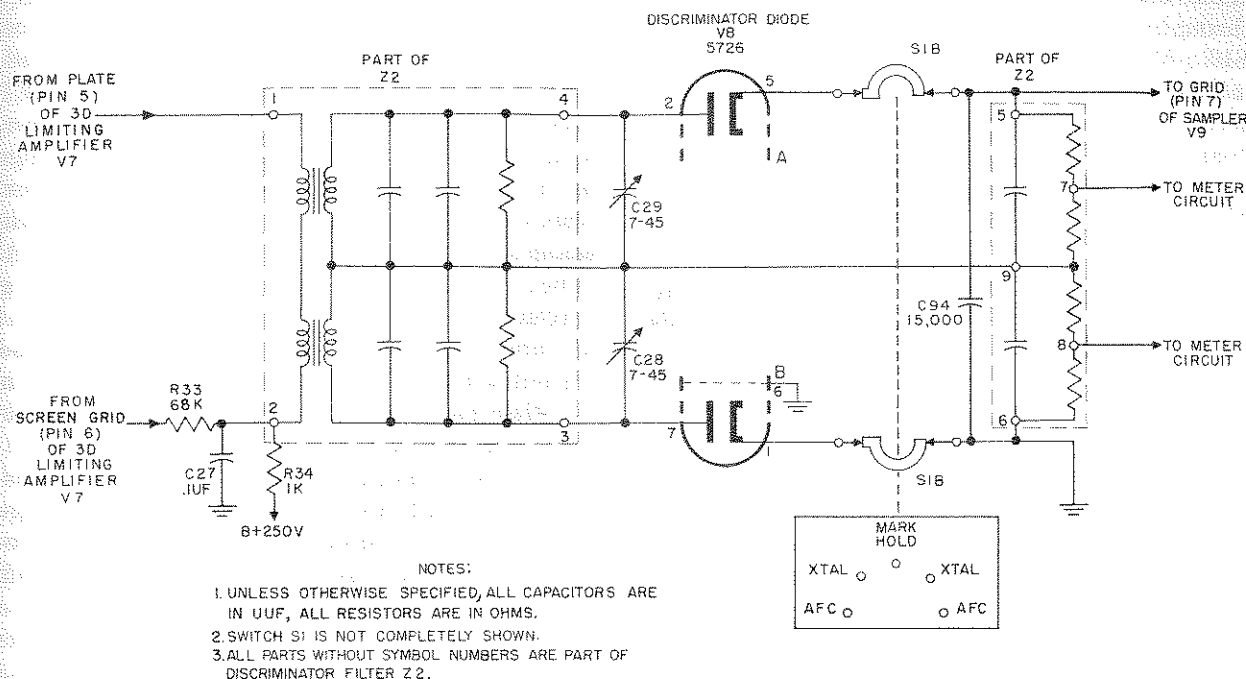

Figure 31. Afc discriminator, simplified schematic diagram.
44. Afc Discriminator (fig. 31)